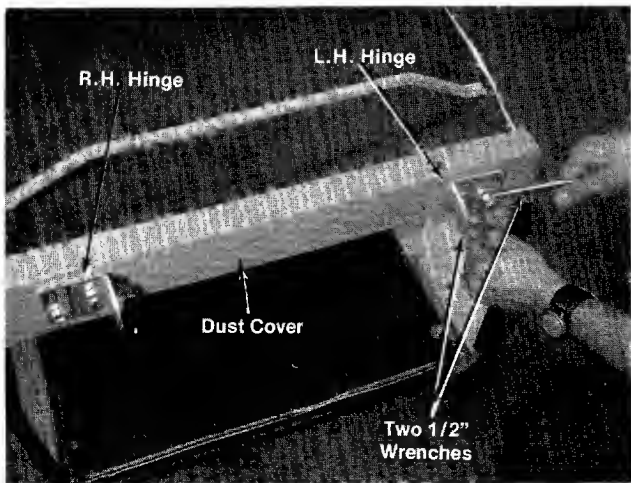

FIGURE 13.
7. Place dust cover in position on top front of catcher. Place right and left hand hinges in position and secure with hex sems bolts (E), lockwashers (F) and hex nuts (G) provided. See figure 13.
Hinges (A & B) are stamped R and L. See figure 13. Two ½" wrenches are required. Do not tighten bolts and nut at this time.